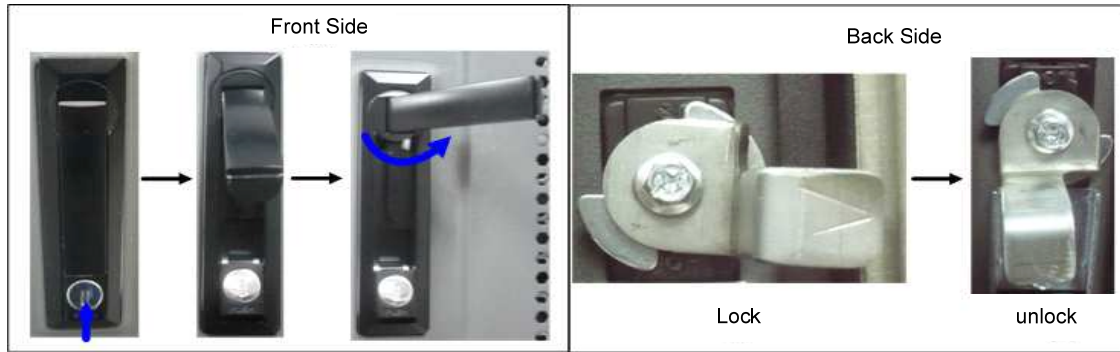

Figure 3-8 Opening the Cabinet Door
Step 1 Open the front and back door, as shown in Figure 3-8.